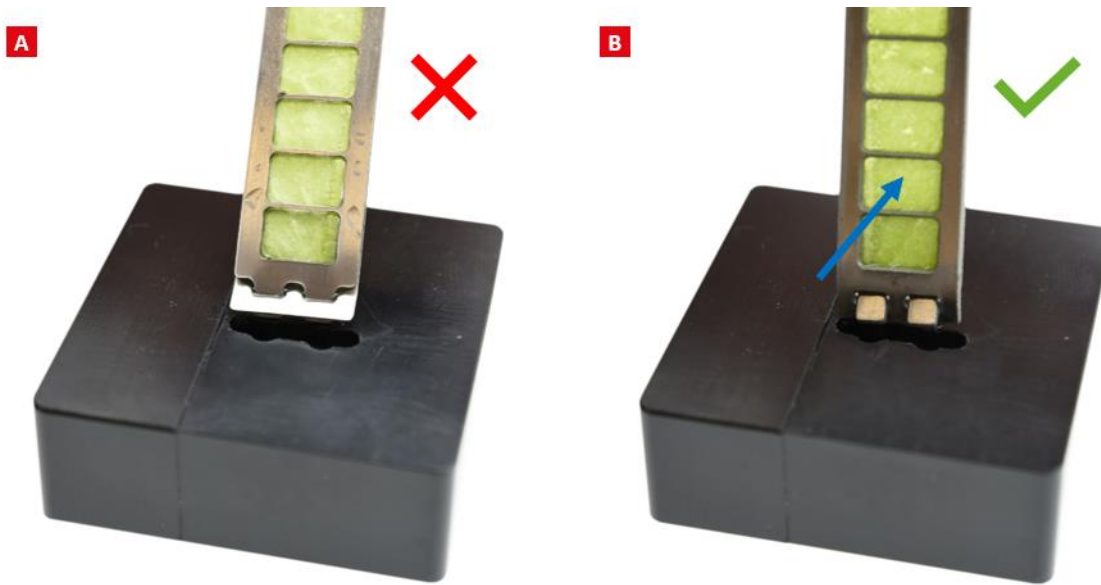

Fig. 16 The orientation of the leaf holder.
3. Add the stirrer bar, plug the conductivity probe (Fig. 14-B) and insert the holder with the leaf segment (Fig. 14-C). The holder must be inserted in proper orientation (Fig. 16-B). Then check the setting similarly as for the control measurement.